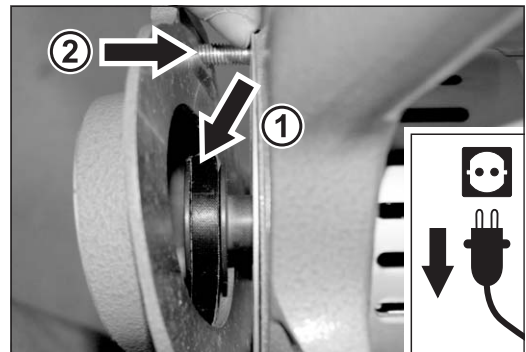

Fig. 25 The V-belt must be lying in the motor pulley.
- 5 Then place the other attachment on the machine by inserting the V-belt into the motor pulley first and then place the attachment on the machine (fig. 25).